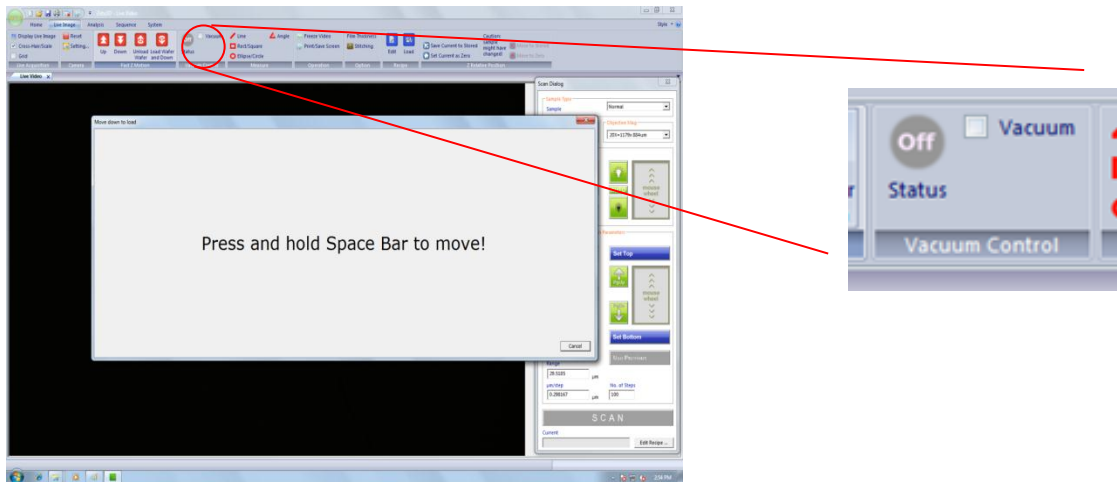

Fig. 25. Message to move to focus position and Vacuum Control group
4. When prompted by the on-screen message (shown in Fig. 25), press the keyboard space bar to move the optical head to the default coarse focus position. The head stops when it reaches a preset safe position.